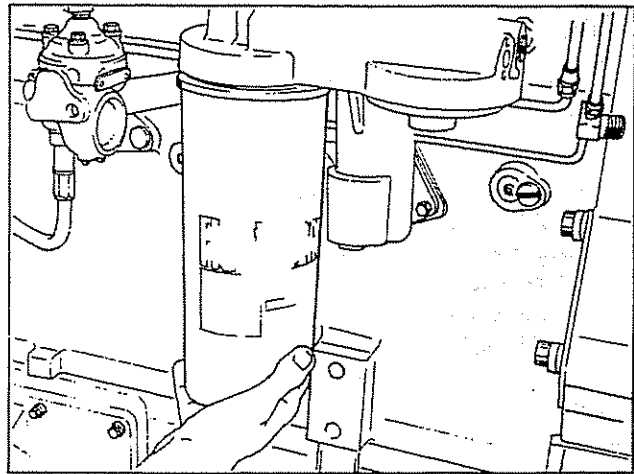

Fig. 2-15, (OM1018L). Installing lubricating oil filter cartridge
1. Unscrew combination case and elements, Fig. 2-15, discard elements.